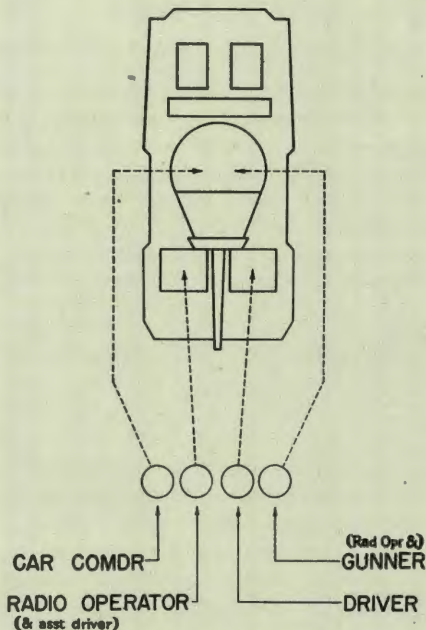

FIGURE 3.—Method of mounting.
(2) The movement may be executed by ordering any member of the crew except the gunner to fall out.
(3) The movement should be executed with snap and precision at double time.
■ 8. To MOUNT CREW.—*a.* The crew, being at dismounted posts or dismounted, is mounted at the command or signal MOUNT. At the command or signal, crew members mount as prescribed in paragraph 1 of the appendix. (See also figs. 3 and 4.) During early stages of training, mounting should be done "by the numbers."